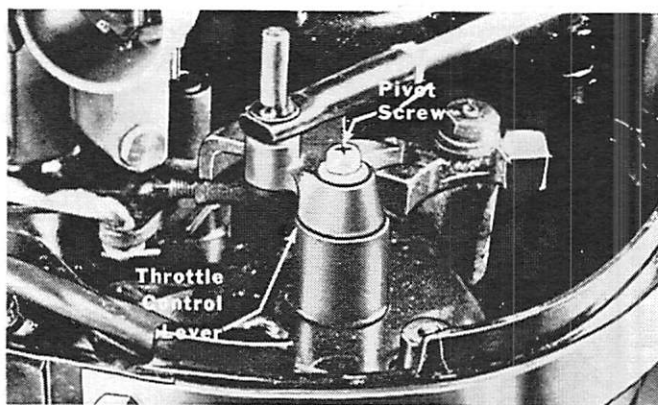

Figure 4. Throttle Control Lever Pivot Screw
1. Remove phillips head screw, washer and spacer from throttle control lever. (Figure 4)